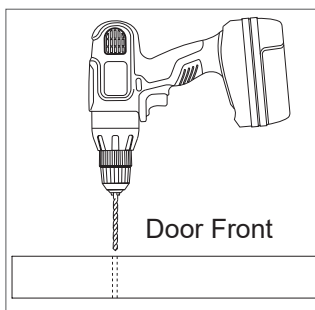

Figure 3
6. Drill two pilot holes all the way through the door for each hanger using a drill with an 1/8" drill bit (Figure 3).